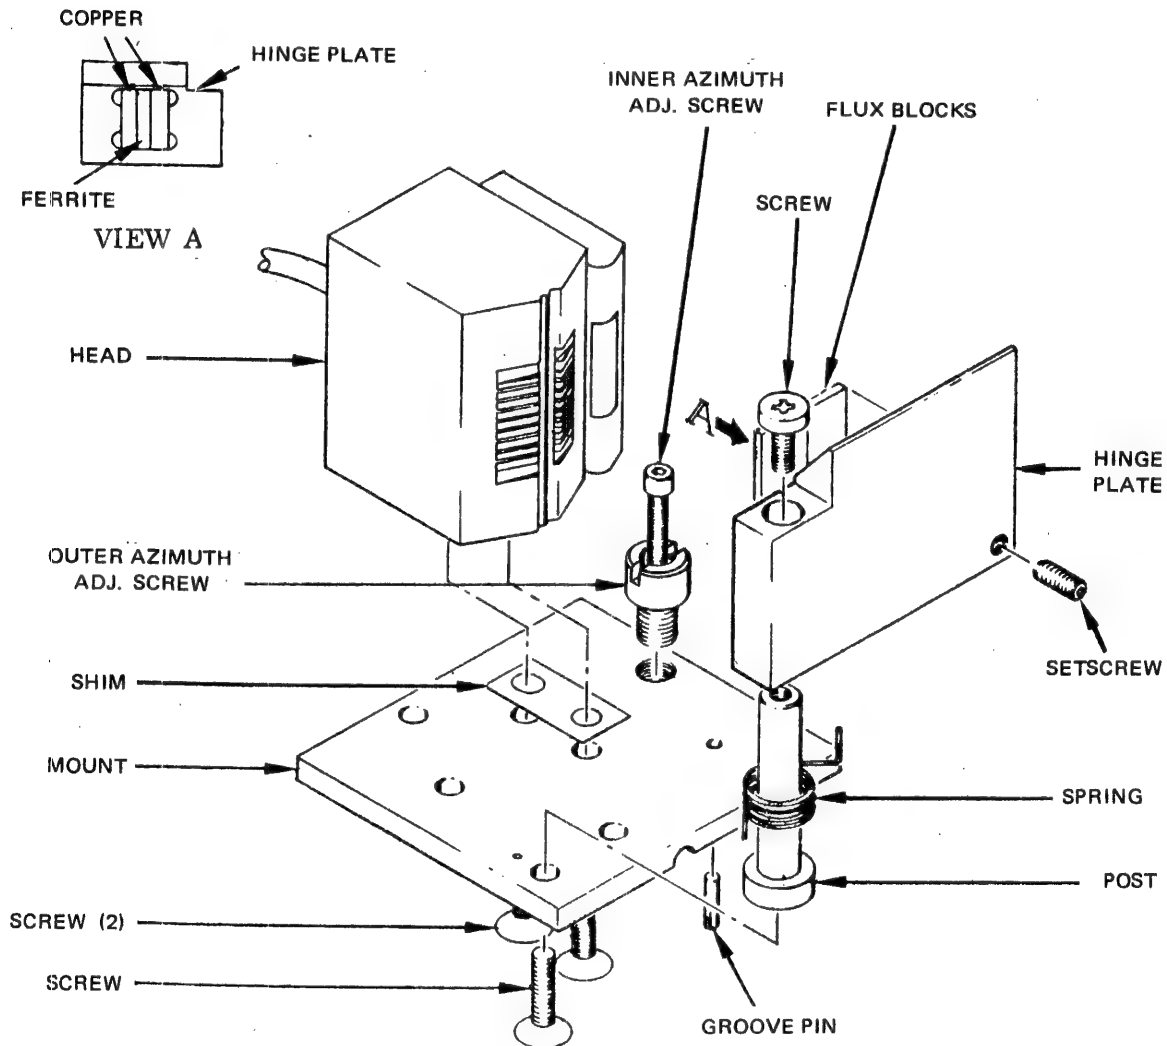

Figure 5-5. Head Assembly Adjustments
- e. Remove four screws securing head assembly to base plate (Figure 5-5).
- g. Feed wires and connectors of replacement head assembly carefully through hole, and secure head assembly to base plate with three socket-head screws not used for azimuth adjustment. Thread outer azimuth adjustment screw into head assembly mount (Figure 5-5), and thread inner azimuth adjustment screw loosely into it.